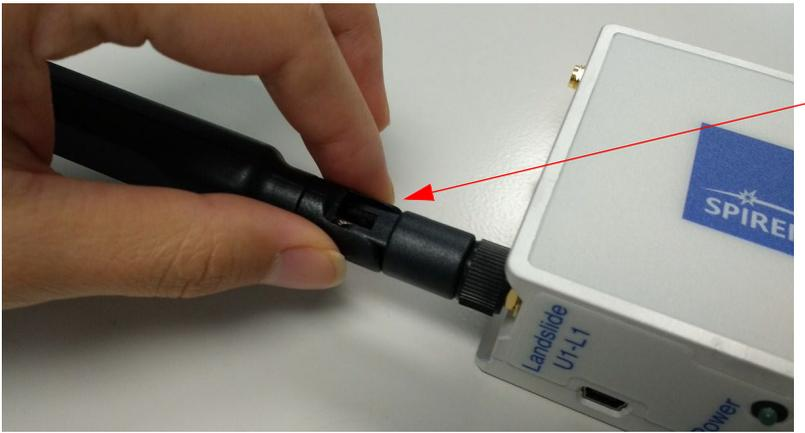

Figure 19. Placing the Pivot in the Correct Position
- Figure 19 shows the USB Connections.